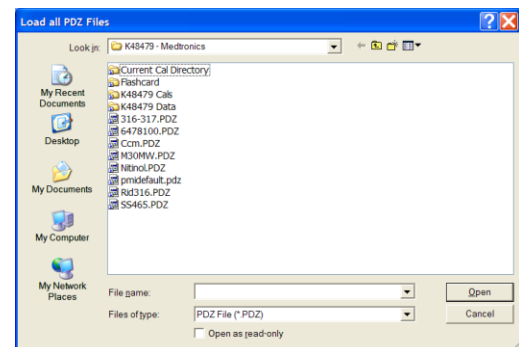

Figure 4
- 5.6. **CLICK** OK. A file selection window opens (Figure 4).